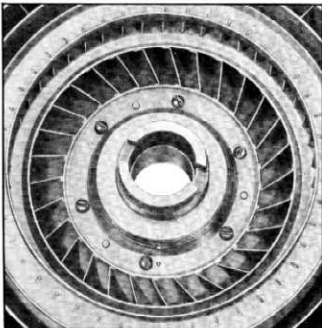

Fig. 77—Mark Primary Pump Hub and Primary Pump
1. With a small center punch, mark both the primary pump hub and the primary pump (fig. 77). This is so the parts may be reassembled in the same relative positions, thus maintaining the balance of the assembly.
2. Remove the (6) screws attaching the pump hub to the primary pump.
3. Support the primary pump on two wood blocks and using a $\frac{1}{8}$ " pin punch, punch on the top of the (3) dowels to remove the hub from the assembly. The (3) dowels are swaged or peened over at the time of assembly.
5. Using a small burring tool, clean up the top of the (6) screw holes so that they are free of any burrs that could lodge between the hub and the primary pump. Then use an Arkansas hard stone and thoroughly remove any chips or burrs from the mating surfaces of the primary pump hub and the primary pump. Remove any burrs from the ends of the (3) dowels.